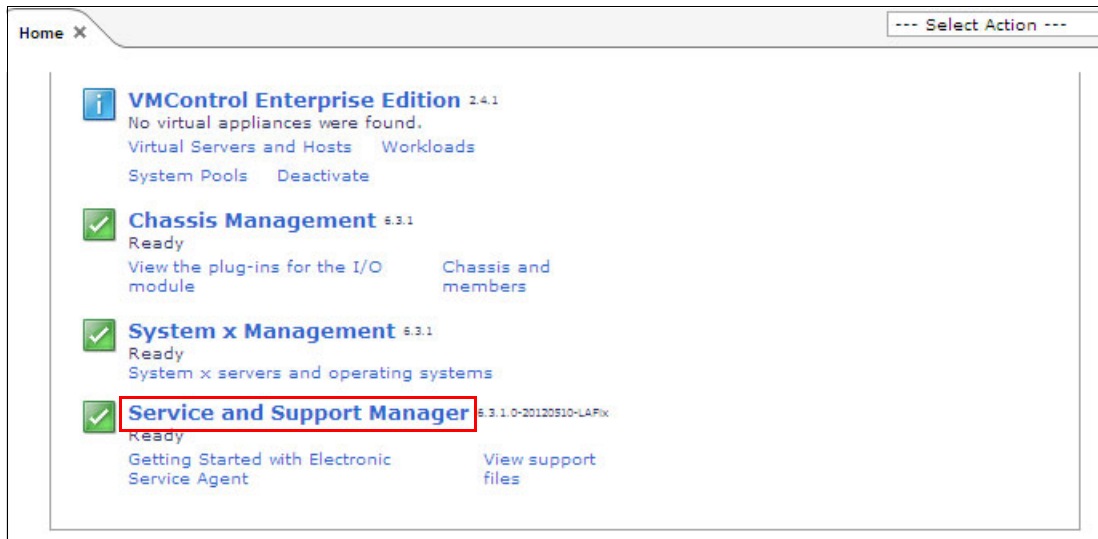

Figure 7-36 Service and Support Manager section in FSM Plug-ins window
9. Return to the Plug-ins tab of the FSM Home page, scroll down and click **Service and Support Manager**, as shown in Figure 7-36.